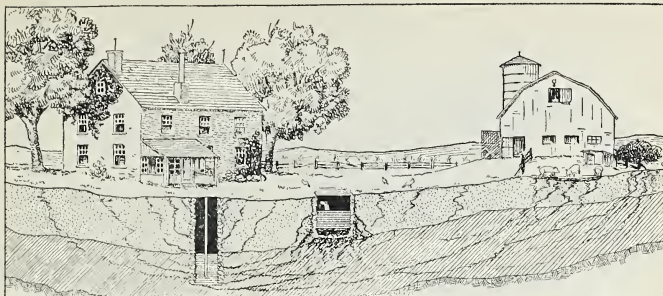

Fig. 83. Why is the water supply on this farm unsafe?
**Sewage disposal.** The great danger to a safe water supply is sewage. Turned into a stream or lake, it endangers communities toward which it drifts. Modern sewage disposal consists in destroying the solids and the harmful bacteria, and then allowing the water to escape into the ground or into streams (Fig. 83). A cesspool, sometimes still used in villages and in the country, is simply a large pit 10 feet deep or more, lined with stones and covered. The solids are partially liquefied by bacteria and the water seeps off through the soil. Such a cesspool always involves danger of contamination of springs or wells. The cesspool should be more than 50 feet from the well and drain away from it. One can never be certain, however, of the movement of underground water.